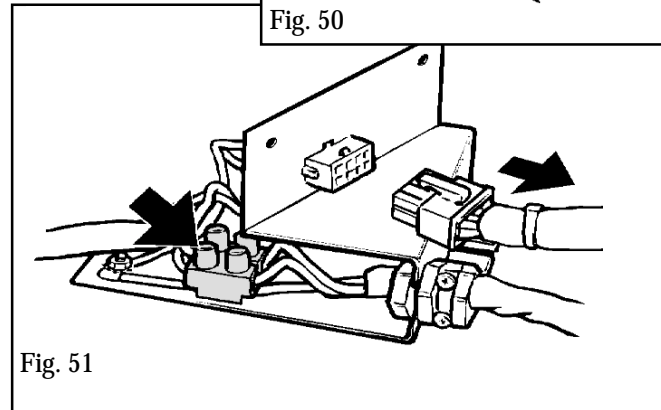

Fig. 51
- Detach the fan wiring loom connection. (see figure 51).
- Disconnect the two leads (Brown & blue) from the mains cable connection block. (See figure 51)